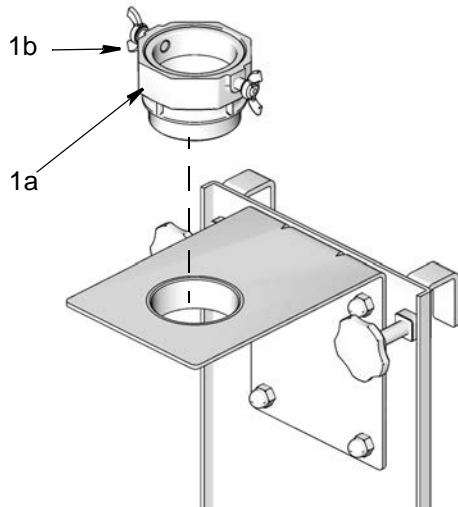
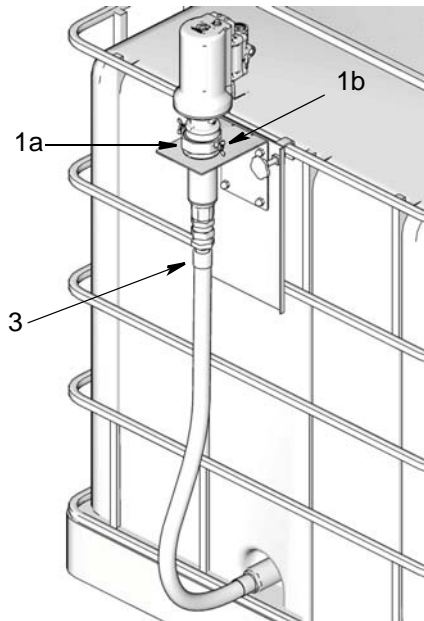

FIG. 12
FIG. 13
- Thread the pump bung adapter (1a) into hole in the pump bracket assembly. Hand tighten securely. (FIG. 12).
- Insert the pump (1) through bung adapter (1a) (FIG. 13). Secure the pump in place by tightening the gasket screws (1b) (FIG. 12 and FIG. 13).